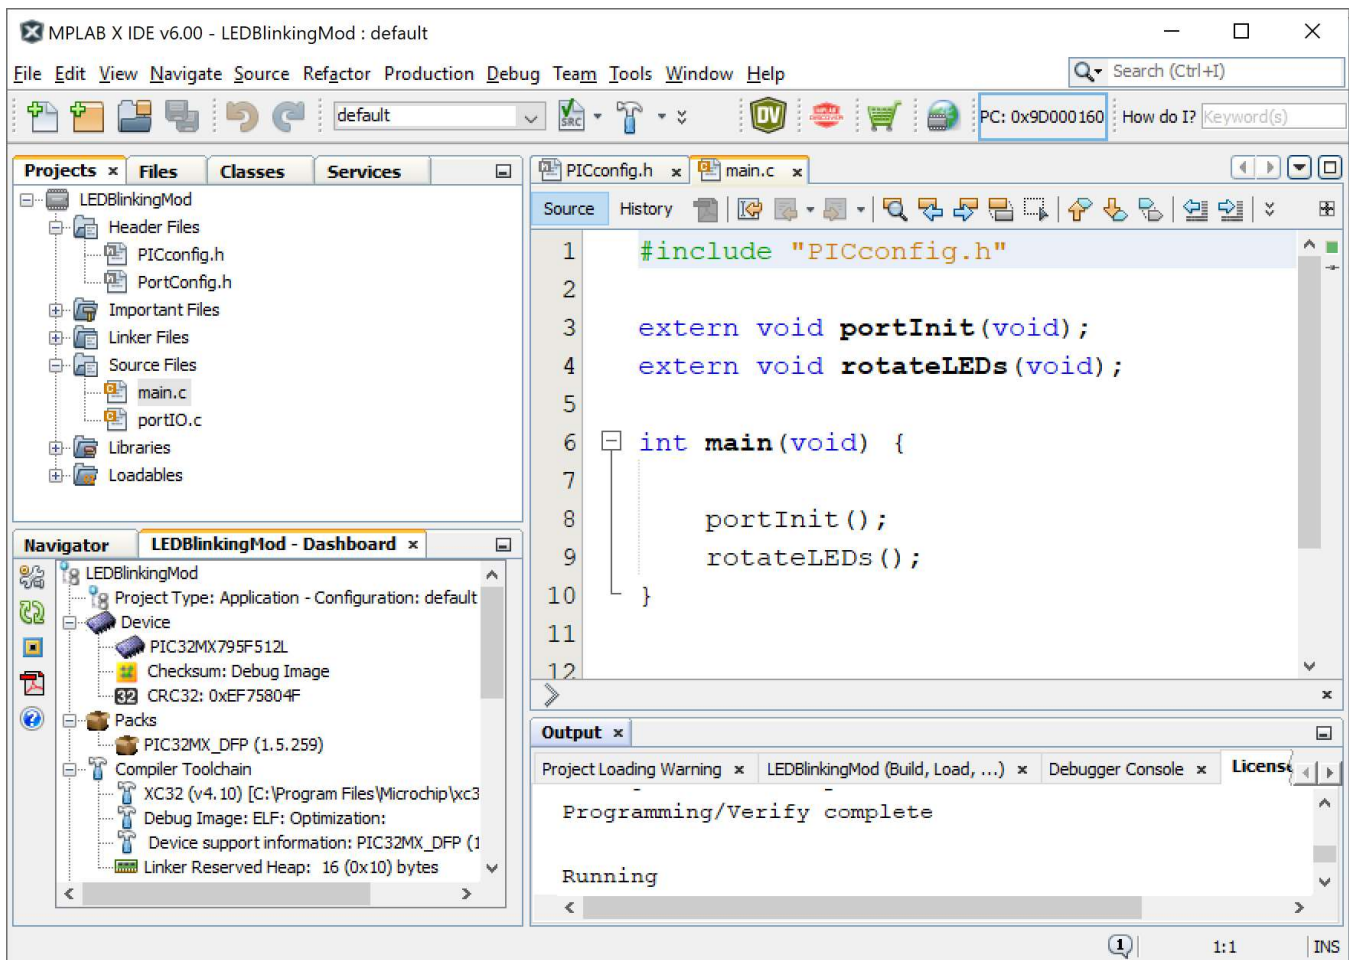

Fig. 4. Workspace after modularization.
- f. Do the modularization (refactoring) as suggested and shown by Fig. 4. You need to figure out what should be placed in the suggested files.